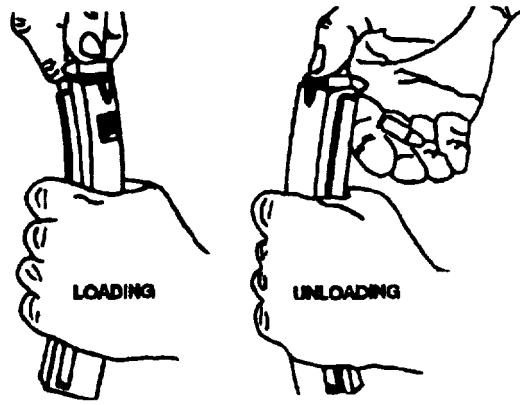

Figure 2-1. Loading And Unloading The Magazine
a. Magazine. Using the appropriate ammunition, load the magazine. Hold the magazine in one hand; with the other hand, place the cartridge on the magazine follower, Figure 2-1, and with slight pressure with the thumb, push the cartridge under the magazine lip. Ensure that all cartridges are pushed all the way to the rear of the magazine.